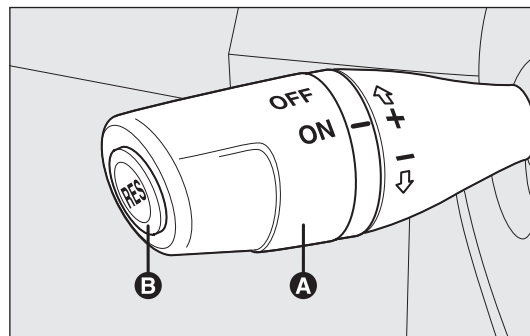

fig. 52
Turn twist switch A-fig. 52 to ON.
- turn twist switch A-fig. 52 to ON and press the accelerator pedal until you reach the required speed;
- press button RES B-fig. 52.
- pressing the accelerator pedal; in this case, the system is not really switched off but the request for acceleration takes priority. The cruise control is, however, active and you do not need to press button RES B-fig. 52 to restore the previous conditions when you have finished accelerating.